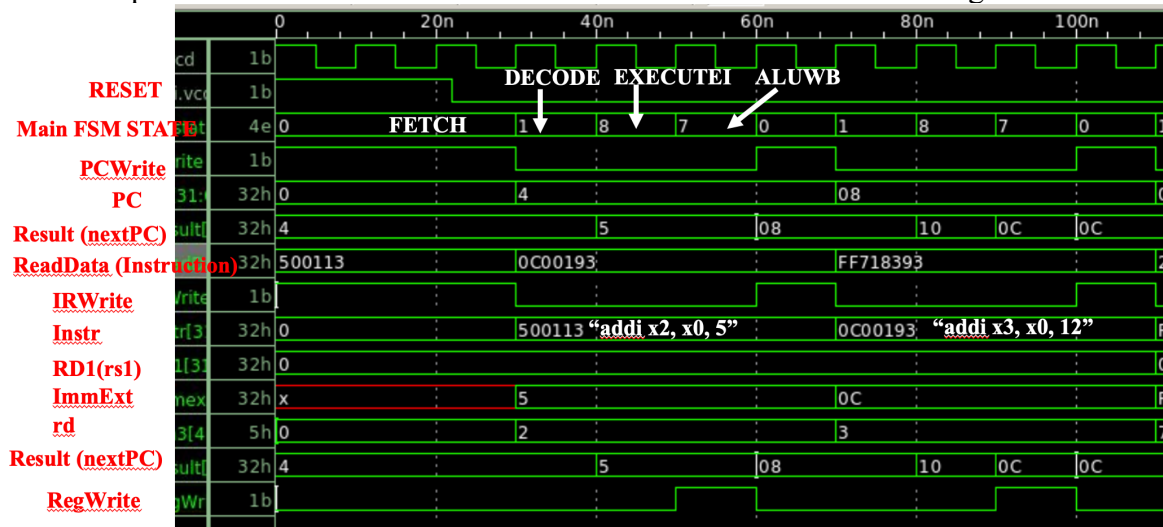

Fig.3 Simulation results for processing very first two commands “addi”
- Verify your Verilog simulation works. As shown in Fig.3, you need to show how each status of FSM flows to process each assembly command, and include snapshot like Fig.3 in the final report.